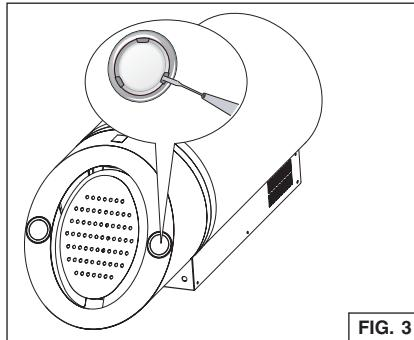

FIG. 3
1. Open the cover by prying from the proper slots. Fig. 3.